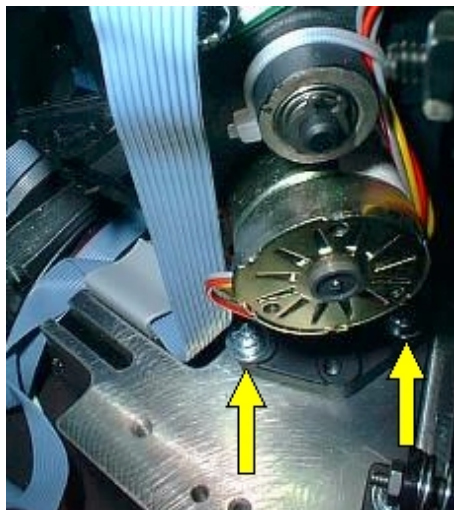

Figure 100 Excitation filter wheel screws
8. Undo the two screws and remove the excitation filter wheel, as shown in Figure 100.